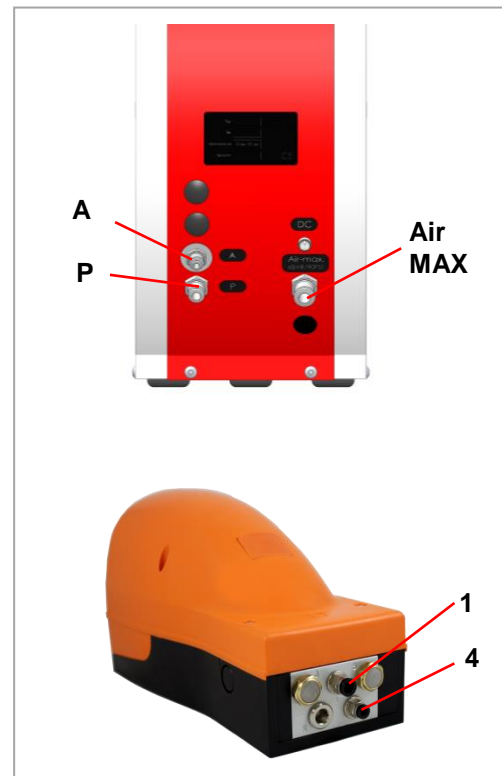

Fig. 6.1
Connect **AIR MAX**. (Fig. 6.1) of the pneumatic Parallel Crimp Machine UP 35 to the main air supply with the included black air hose \varnothing 8/6 mm.
- + The machine can only be depressurized by disconnecting the machine from the main air supply **AIR MAX** (Fig. 6.1).